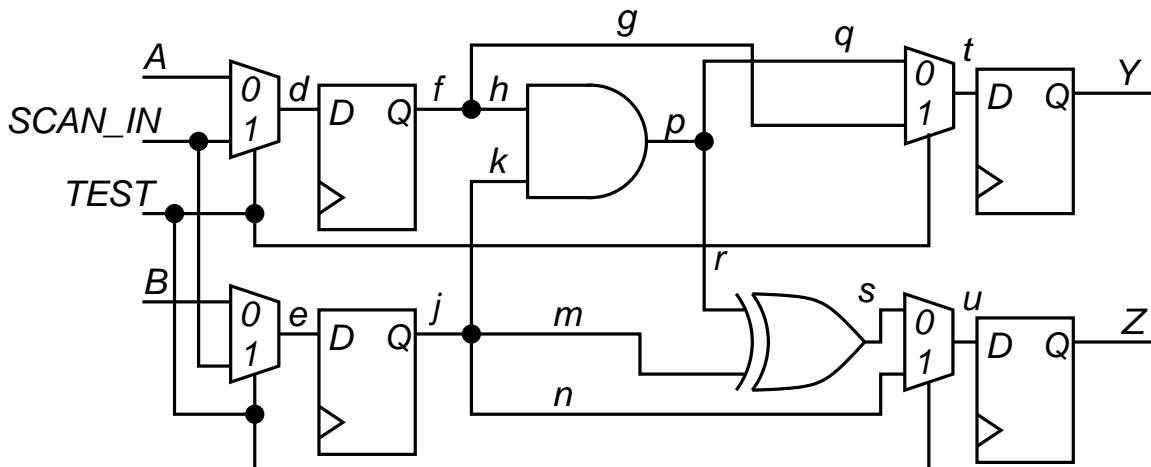

Figure 1: Circuit for Problem 14.15.
- 14.15 *Illinois scan*. A variant of full-scan called Illinois scan [1, 2] is used to halve the scan chain length and shorten the test application time. The scan chain is divided into two parts of equal length, with the *scan\_in* input to both chains driven by a common pin. For the circuit in Figure 1, with the two sub-scan chains, collapse all of the faults between the flip-flops using the *Checkpoint Theorem*. Then, determine which of those faults are testable using Illinois scan. For the untestable faults, indicate whether the fault is untestable in the functional circuit, or whether the Illinois scan constraint made it untestable.